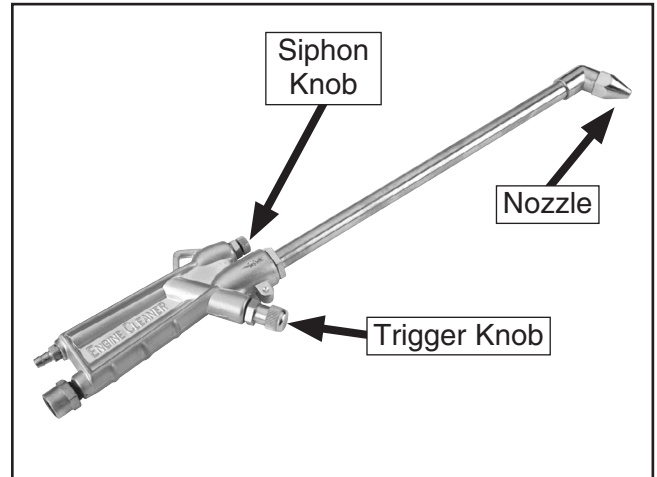

Figure 1. Model H3266 (siphon hose not shown).
- Connect the engine cleaning gun (**Figure 1**) to an air supply set at 60 PSI. Adjust the trigger knob until there is no air escaping from the cleaning gun.